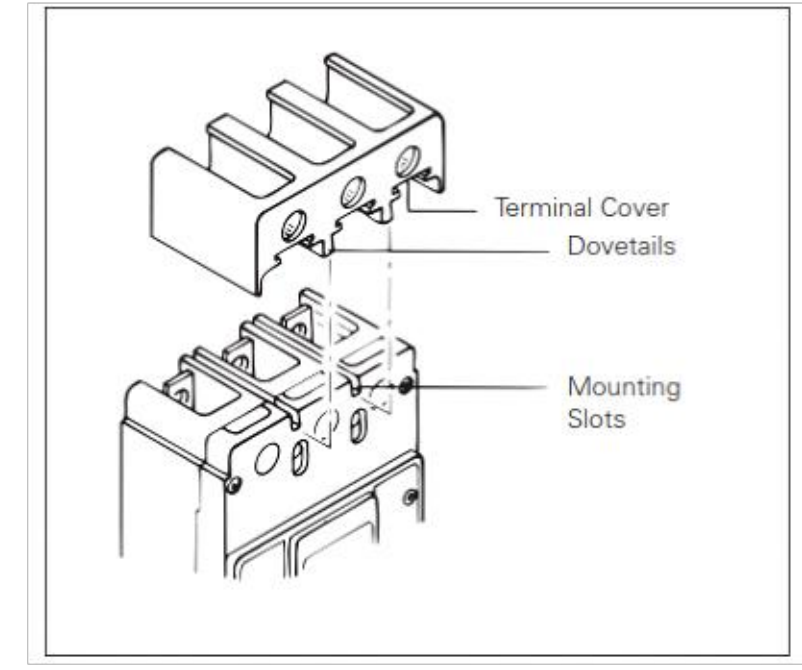

Figure 2-2
- iii. For TA400K, TA401K, TA402K, T400K terminals, see Warning label located on breaker cover concerning required use of terminal cover (provided with terminals) due to hazardous voltage being present (see Figure 2-2).